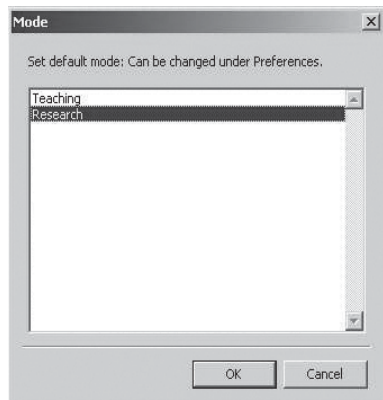

Fig. 30— (Left) Mode dialog box (left)
1. After installing the program and the drivers, launch LabScribe from the desktop icon. The first time the LabScribe program is launched, the **Mode** dialog box appears (**Fig. 30**). If it is not the first launch, go to step 4.
2. Under normal conditions, highlight **Research** and click the **OK** button. Then, the **Language** dialog box appears (**Fig. 30**).